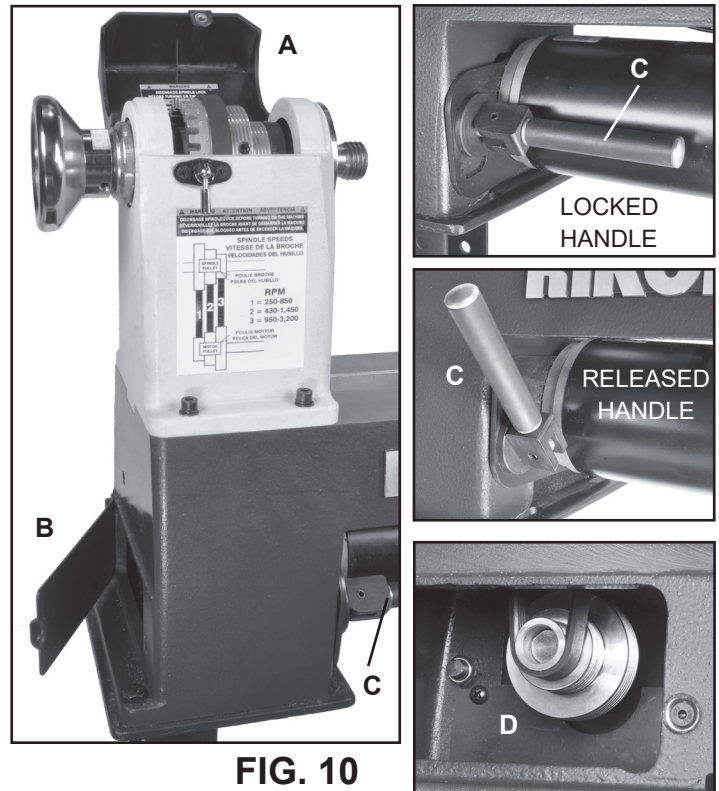
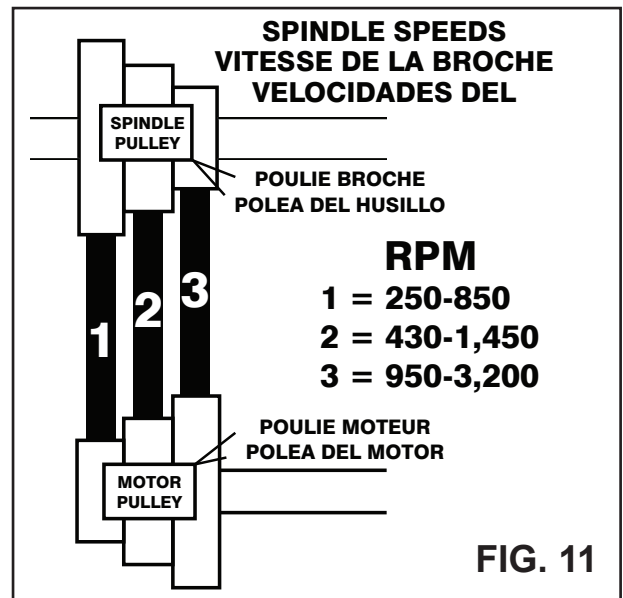

FIG. 10
FIG. 11
2. Open the top Headstock Cover (#14B, FIG. 10, A) and the left side, Bed Cover Plate Door (#4A, B) to gain access to the belt and pulleys that are inside of the headstock.
- Pull the handle forward to unlock. FIG. 10, C.
4. - Change the belt position on the two pulleys. The Poly-V-Belt (#38B) can now be re-positioned on the upper Spindle Pulley (#7B) and lower Motor Pulley (#24A, FIG. 10, D) for the desired speed range setting. FIG. 11 shows the belt positions for the three speeds.